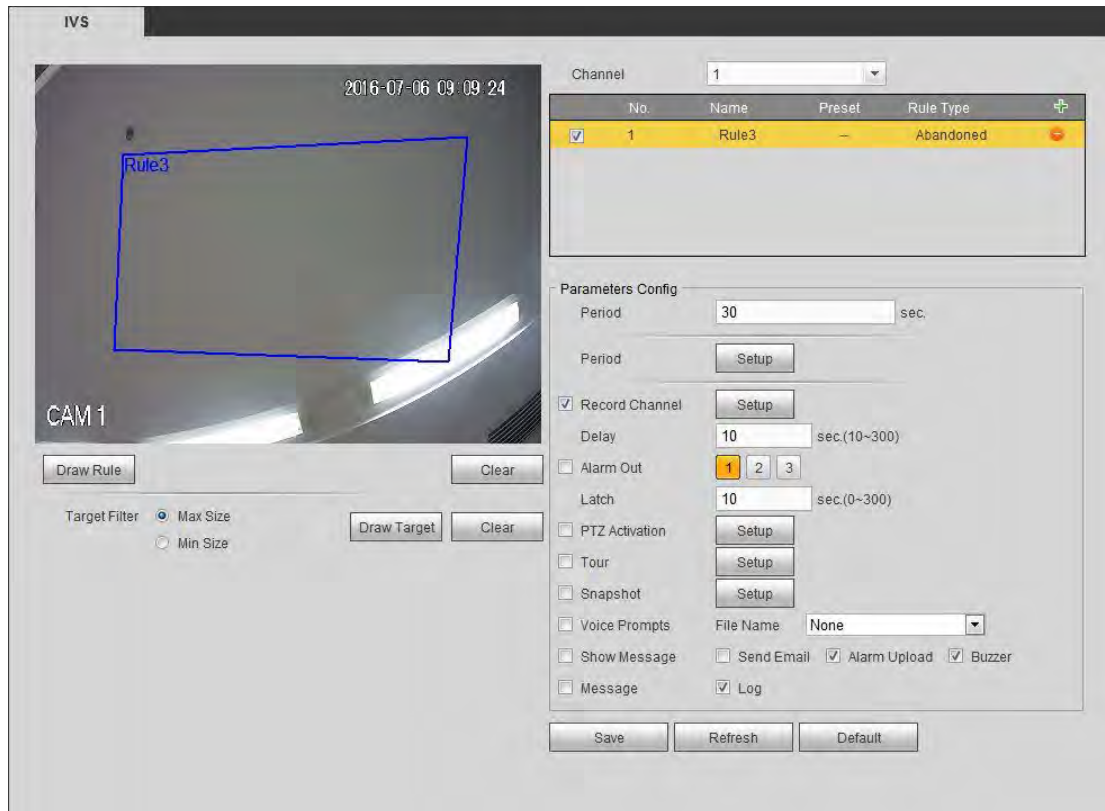

Figure 5-83
Step 3 Click Draw rule to draw the rule. See Figure 5-83. Left click mouse to draw a line, until you draw a rectangle, you can right click mouse.